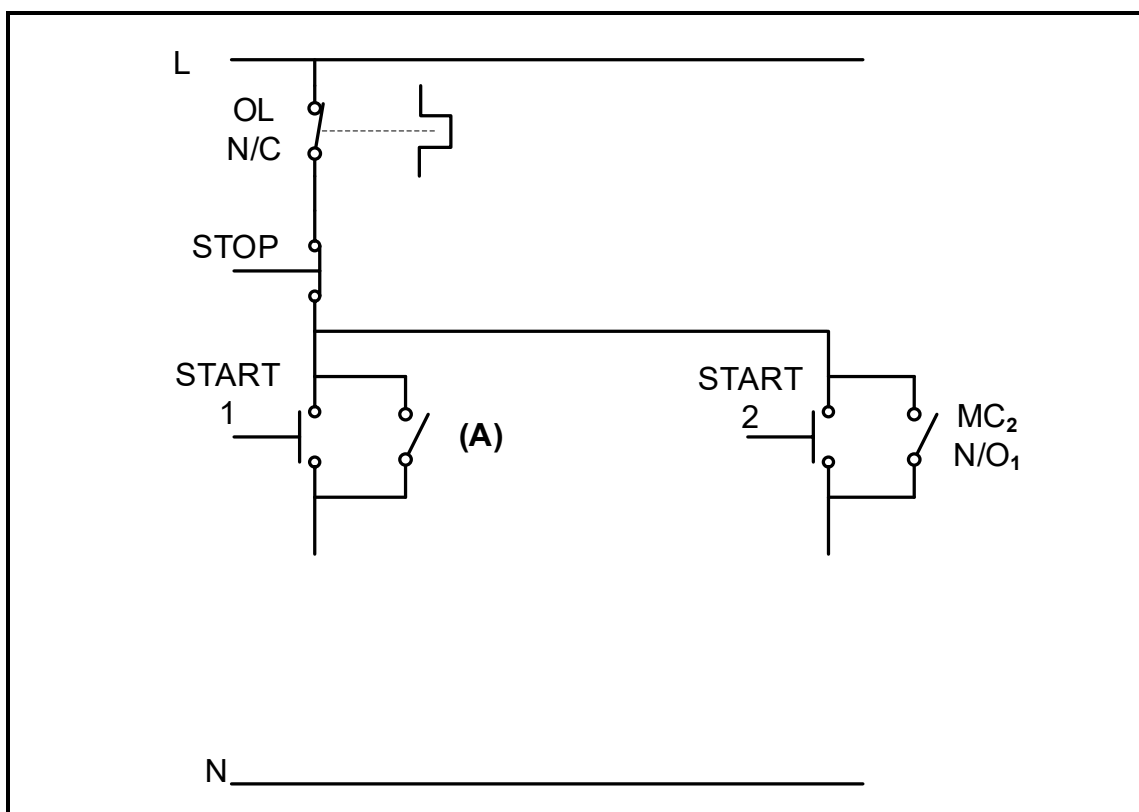

FIGURE 6.6: FORWARD-REVERSE CONTROL CIRCUIT
- 6.6 The circuit in FIGURE 6.6 below is used to control a three-phase motor. The motor must be able to rotate in a forward direction and in a reverse direction, but NOT at the same time. Answer the questions that follow.
- 6.6.1 Label **A** in FIGURE 6.6 above. (1)
- 6.6.5 Redraw and complete in your ANSWER BOOK the control circuit for FIGURE 6.6, on the previous page, that satisfies the requirements of QUESTION 6.6. (4)